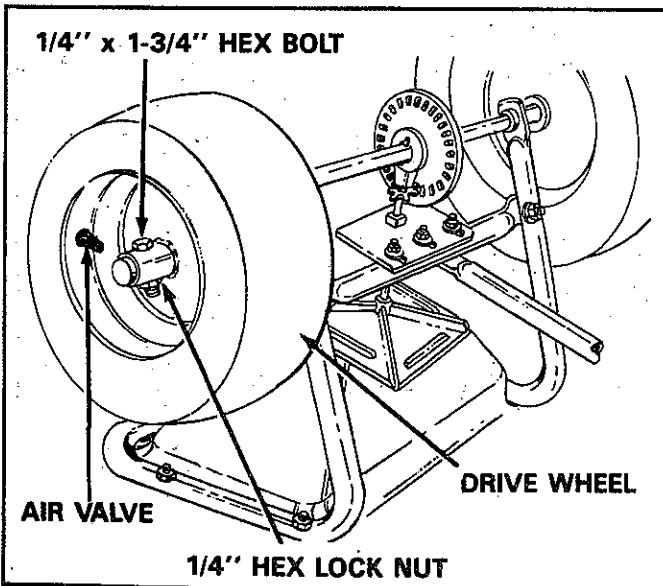

FIGURE 7
- Place the drive wheel onto axle (air valve to the outside) and secure with 1/4" x 1-3/4" hex bolt and 1/4" hex lock nut. See figure 7.
3. If for any reason the axle, gear and sprocket assemble is disassembled, be sure to mark position of parts as they are removed. Drive wheel and sprocket position determine relation direction of spreader plate. See figure 7 on page 5. With reassembly of gear and sprocket use shim washers (see page 10 Ref. No. 21) as needed for minimum backlash. Add grease to gear and sprocket.